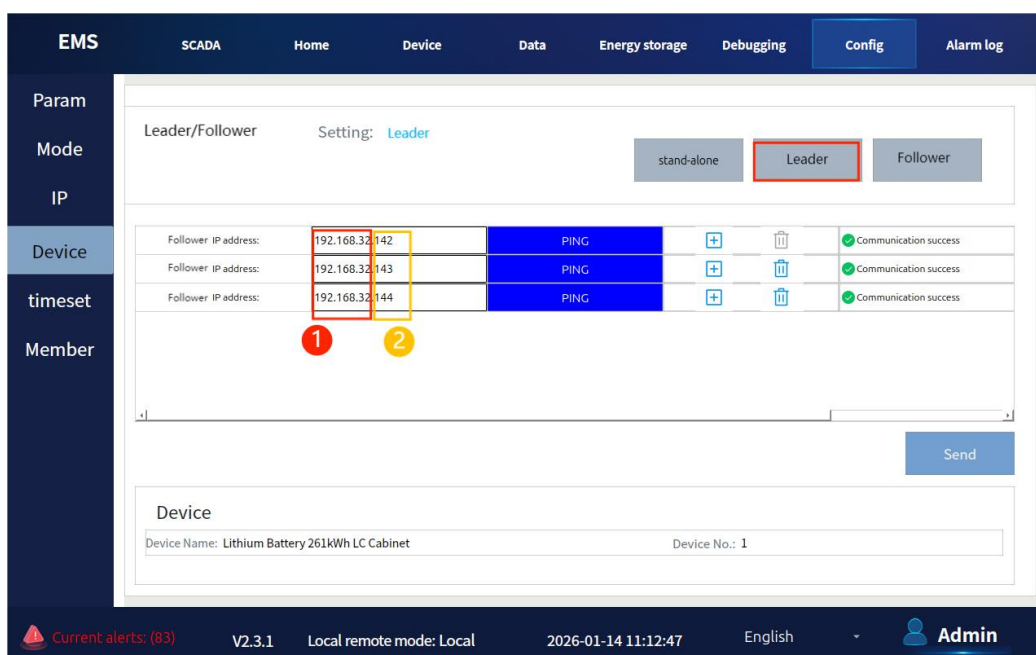

Figure 7.9-3 Comm. Test - Leader (Wi-Fi Mode)
Note: The prefix of the "Follower IP Address" must match "IP2" in "IP Parameters" (keep ① identical as shown in Figure 7.9-3, and configure IDs for ②).